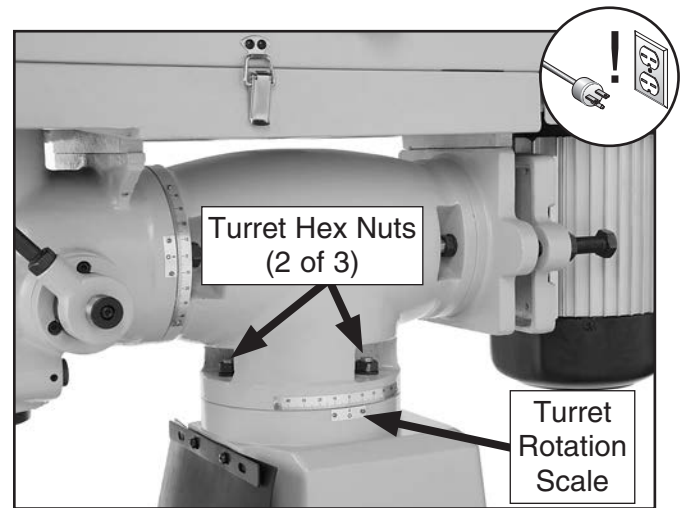

Figure 30. Turret rotation hex nuts (2 of 3 shown).
2. Loosen the three hex nuts on the turret (see **Figure 30**).